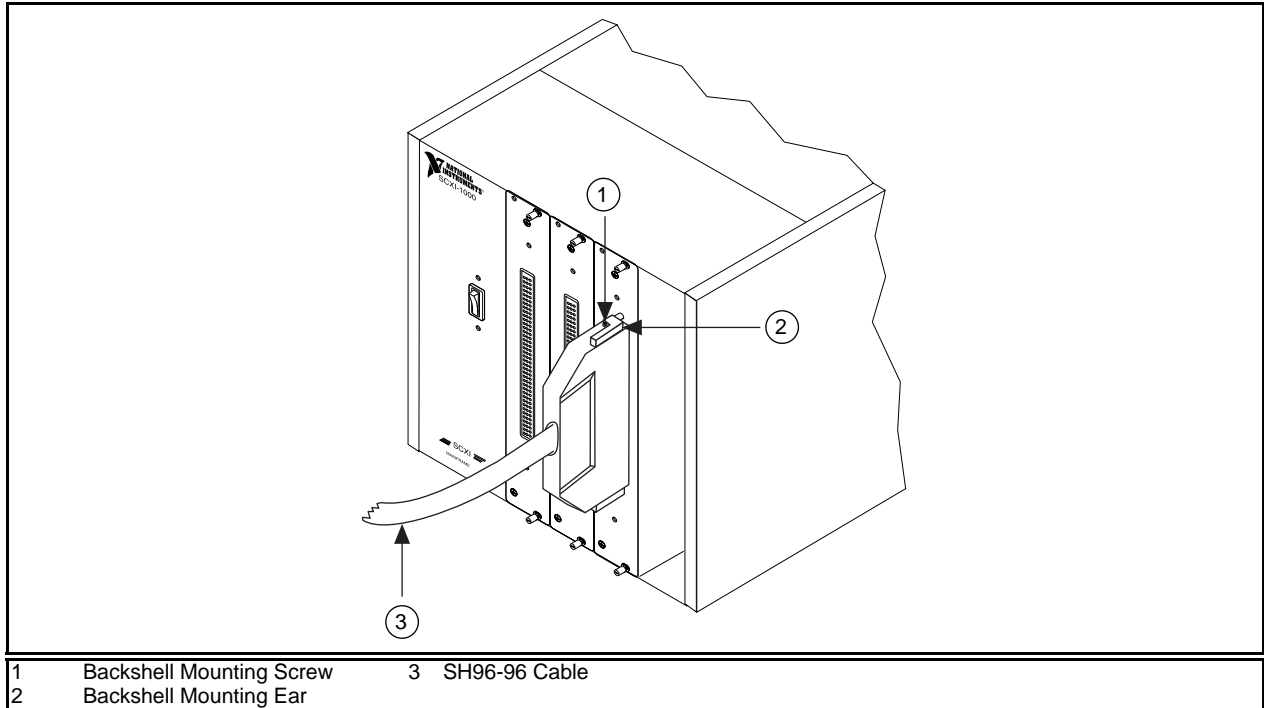

Figure 3. Connecting the SH96-96 Cable to the SCXI Module
11. Verify that the four backshell mounting ears are in the position shown in Figure 3. If not, remove the backshell mounting ears and install them in the position shown.